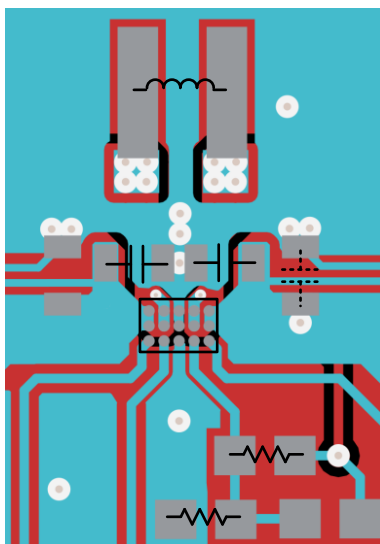

Figure 69. TPS63805 and TPS63806 Layout
2. Separate AGND and PGND. Do not connect AGND and PGND directly at the IC. See Figure 69 as an example.